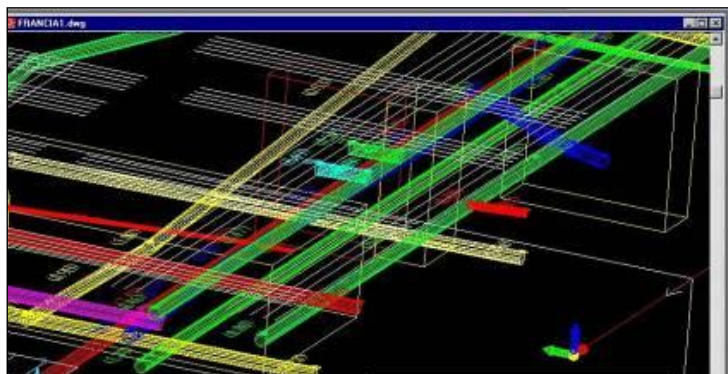

Fig. 132 – 3D View in iron wire mode
12. The **Unshade 3D Objects** command () allows to view the 3D elements in the so-called “iron wire” view (Fig. 132).